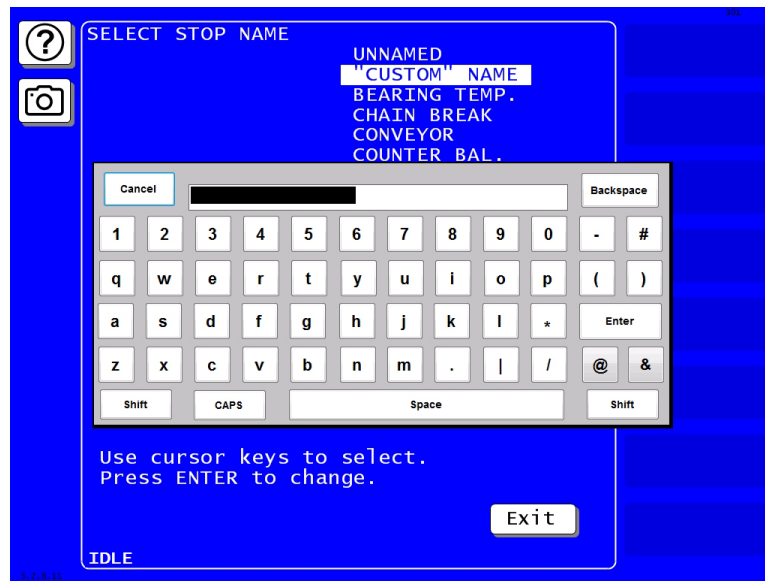

Figure 3-7. SmartPAC PRO On-screen Keyboard
5. If you want to enter a name that does not appear in the list, select "CUSTOM" NAME and press ENTER. When the On-screen Keyboard appears (*Figure 3-7*), key in the name. Press ENTER to accept your entry. You are returned to the Select Stop Name screen.